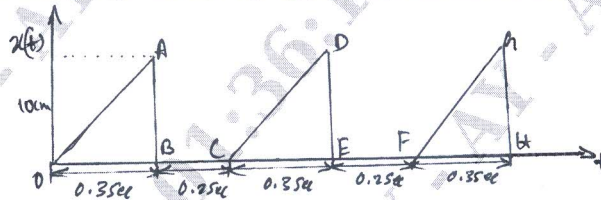

Fig. Q2 (b)
- b. Represent the periodic motion given in Fig. Q2 (b) by harmonic series. (08 Marks)